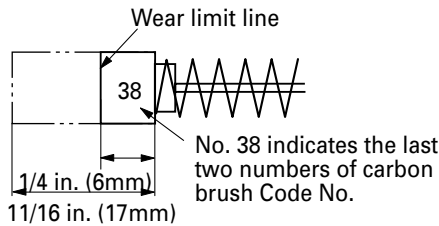
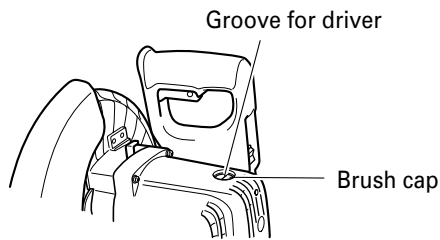

Fig. 35
Fig. 36
3. Inspecting the carbon brushes (Fig. 35 and Fig. 36)
Therefore, inspect the carbon brushes periodically and replace them when they have become worn to the wear limit line as shown in Fig. 35.
The carbon brushes can easily be removed after removal of the brush caps (see Fig. 36) with a slotted (minus) screwdriver.